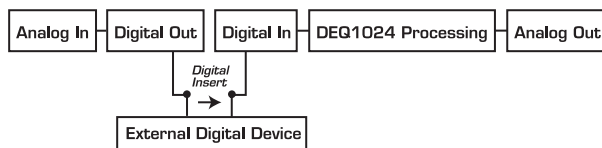

Fig. 2.5: Signal flow in PRE EQ mode
**11** When you keep the *CONFIG* switch depressed for a few seconds, you can select the operating mode of your DEQ1024: *ANALOG* (green LED), *DIGITAL* (yellow LED), *PRE EQ* (yellow LED) or *POST EQ* (yellow LED). When in the *PRE EQ* or *POST EQ* mode, you can use the rear panel digital connectors as inserts, for example for an additional dynamics processor. When the unit is in *PRE EQ* mode, the insert point is located pre EQ; when the unit is in *POST EQ* mode, the insert point is located post EQ (see fig. 2.5 and 2.6).